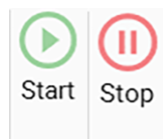

Figure 56: File Playback Start (left) and Stop (right)
**Start/Stop** (Figure 56) toggles playback on and off. Automatically stops after reaching the end of the buffer unless **Loop Playback** is enabled.